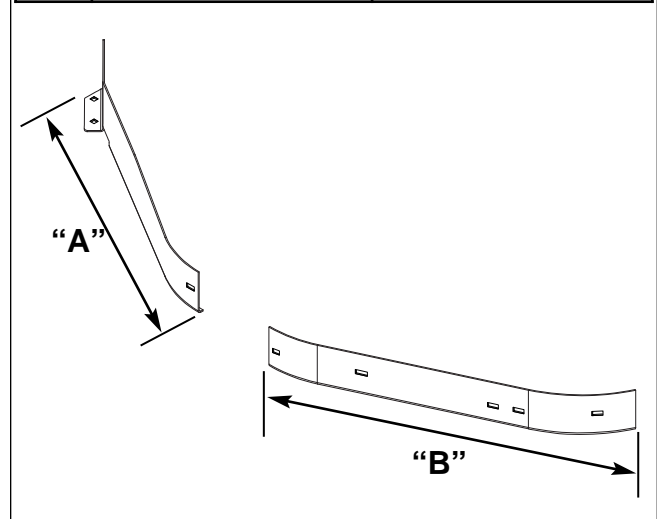

Figure 5. Baffle Chart
1. Determine which baffle to use. See Figure 5 Chart.